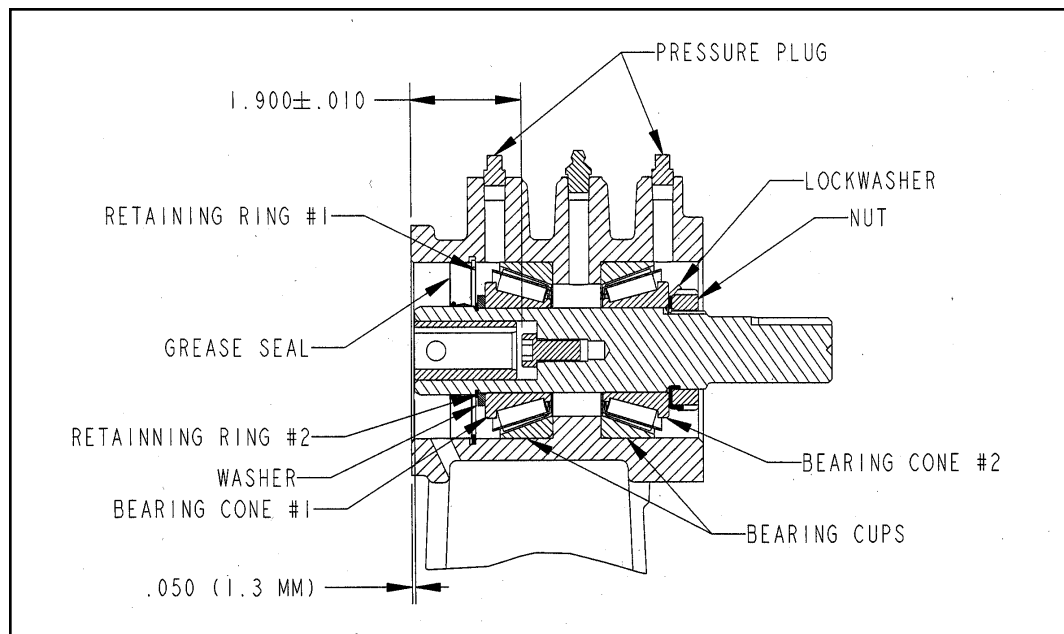

Figure 6.8
- A. Remove the nut and lock washer from the bearing frame shaft (Figure 6.8, D-Bearing Frame Overhaul).
After the grease seal is removed, continue pressing to remove the shaft assembly from the bearing frame. Bearing cone #1 will remain on the shaft (Figure 6.8, D-Bearing Frame Overhaul).
2. If removed, press bearing cone #1 onto the shaft, holding bearing square while starting. Make sure washer #1, behind the bearing square, has been replaced. The correct set-up may be checked by placing the shaft into the frame and measuring the 0.050-inch (1.3 mm) recess. Refer to Figure 6.8 (D-Bearing Frame Overhaul).
4. Reinstall the lock washer and lock nut. Hand tighten the lock nut and lightly set a tank on the lock washer into the slot on the lock nut. If desired, a 3/8-16 UNC x 3-inch bolt may be inserted through a side port in the bearing frame and into the set screw hole in the end of the bearing frame shaft (Figure 6.8) when tightening the lock nut.